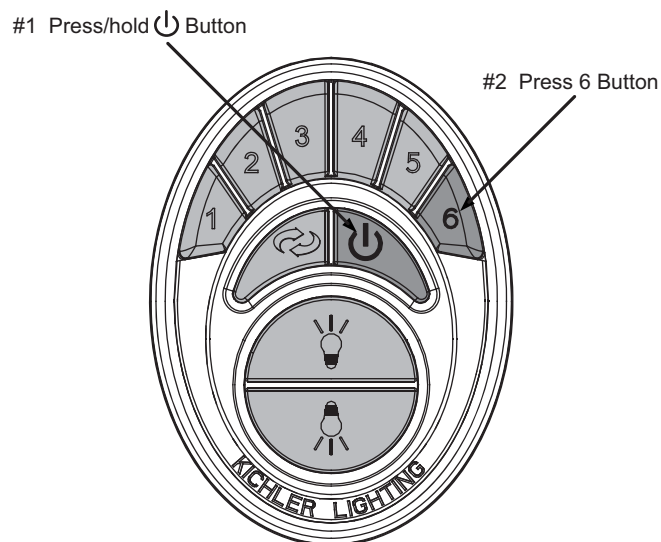

Fig. 22
4. Turn the power on, press and hold the (⏻) button until the ceiling fan light blinks twice (Figure 22)
6. After the ceiling fan light blinks twice, press and release the High Speed (6) Button. Let the ceiling fan run for a minimum of 90 seconds (1 ½ minutes). The control system will do another self check, initialize all operational functions and complete the programming process (Figure 22).